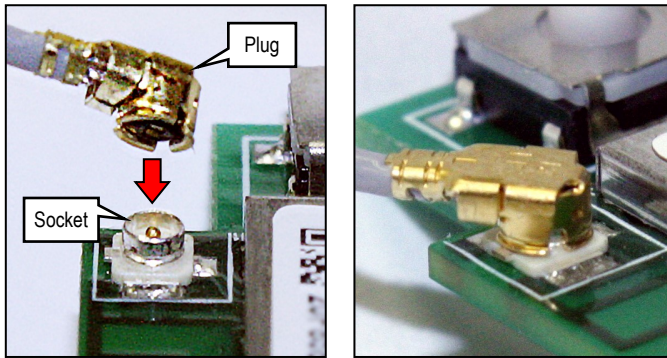

Fig. 4: Antenna Wire Plug and Socket
8. **With the ISEC-WIFI PC board in hand**, connect the small **Antenna Board plug** to the **ISEC-WIFI** module socket (see Fig. 4).